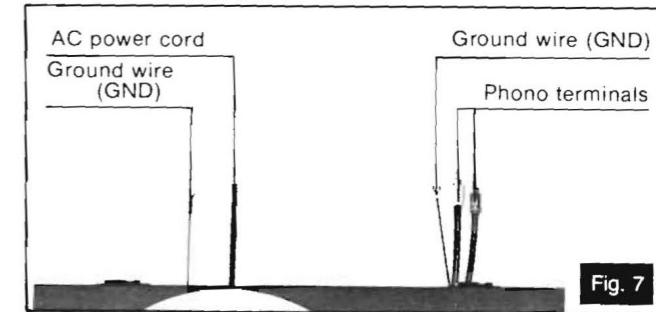

Fig. 7
3. Mount the tonearm on the arm panel, and pass the PHONO terminal side of the arm output cord through the surface of the turntable base. At the side pull it out from under the base. (See Fig. 7.)